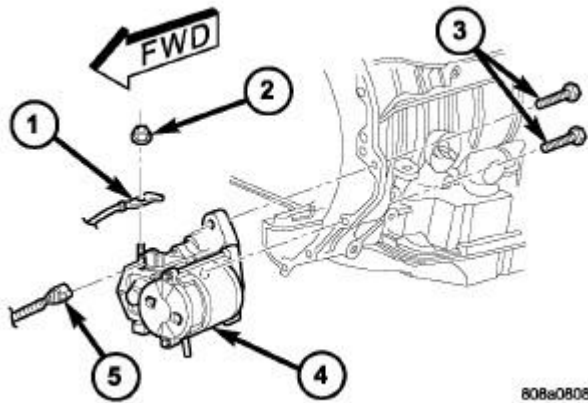

Fig. 9: Remove/Install Starter Motor
34. Remove the starter (4). Refer to **Fig. 9**.